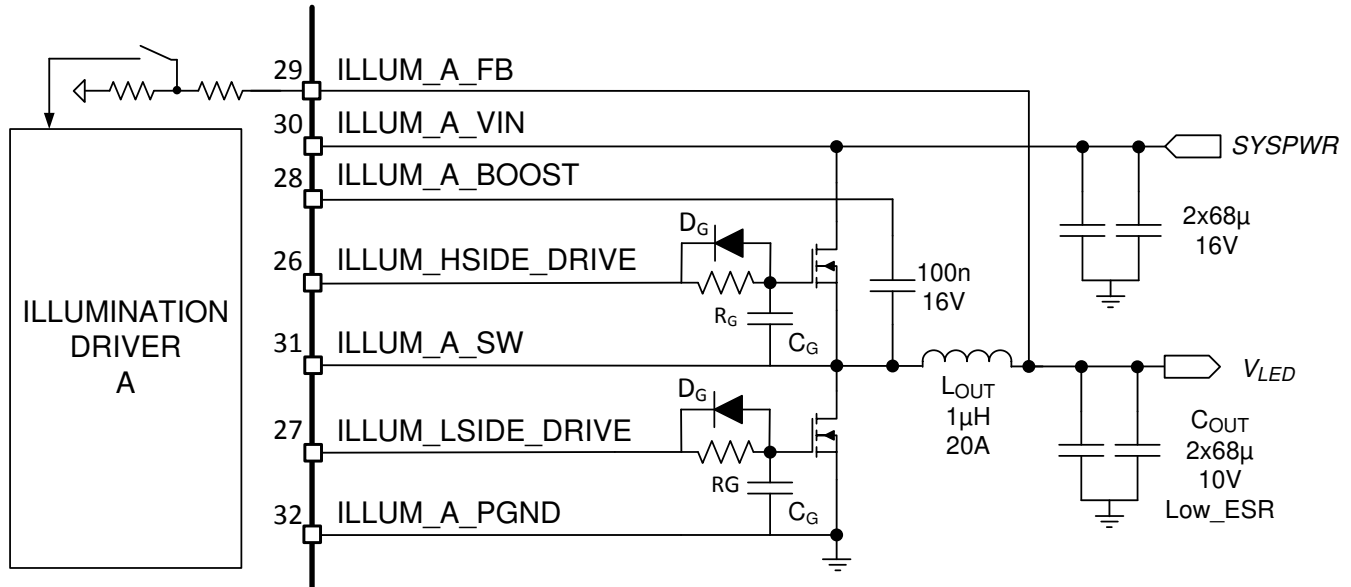
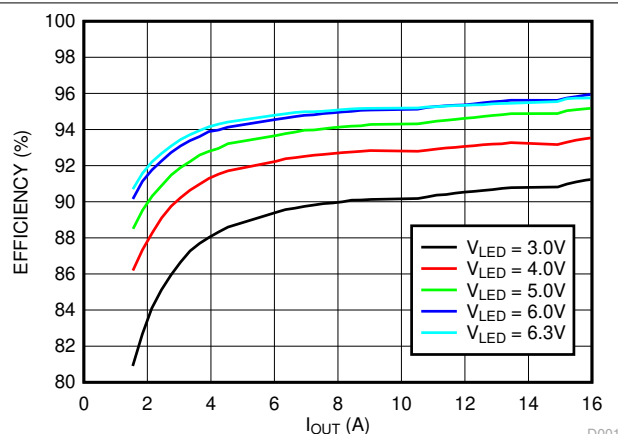

Figure 7-4. Typical Illumination Driver Configuration
Figure 7-10. Illumination Driver Plus Power FETs Efficiency ($V_{ILLUM_A_IN} = 12 V$)
The illumination driver of the DLPA3005 is a buck controller for driving two external low-ohmic N-channel FETs (Figure 7-4). The theory of operation of a buck converter is explained in the application note Understanding Buck Power Stages in Switchmode Power Supplies. For proper operation, selection of the external components is very important, especially the inductor L_{OUT} and the output capacitor C_{OUT} . For best efficiency and ripple performance, an inductor and capacitor should be chosen with low equivalent series resistance (ESR).
Below (Figure 7-10) an overview is given of the efficiency of the illumination driver plus power FETs for an input voltage of 12 V. Used external components (Figure 7-4): High-side FET (L) CDS17506Q5A, Low-side FET (M) CDS17501Q5A, $L_{OUT} = 2 \times 2.2 \mu H$ parallel, $C_{OUT} = 88 \mu F$. The efficiency is shown for several output voltage levels (V_{LED}) versus output current.